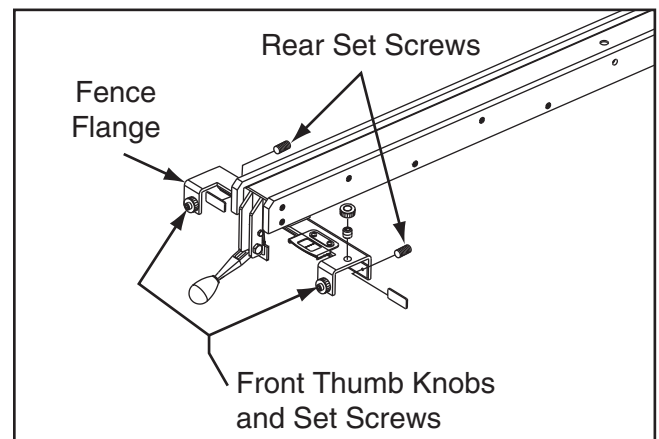

Figure 113. Location of set screws used to adjust fence parallelism and clamping pressure.
- Unscrew the front thumb knobs and set screws shown in **Figure 113** until they are barely threaded into the fence flange.
- Back out the rear set screws until they are just threaded into the fence flange (see **Figure 113**).
3. Turn each rear set screw (see **Figure 113** on **Page 67**) in $\frac{1}{6}$ th of a turn.
8. Loosen both front thumb knobs (see **Figure 113** on **Page 67**). Tighten the set screws so they just touch the fence tube, back off the set screws $\frac{1}{2}$ turn, then tighten the thumb knobs.